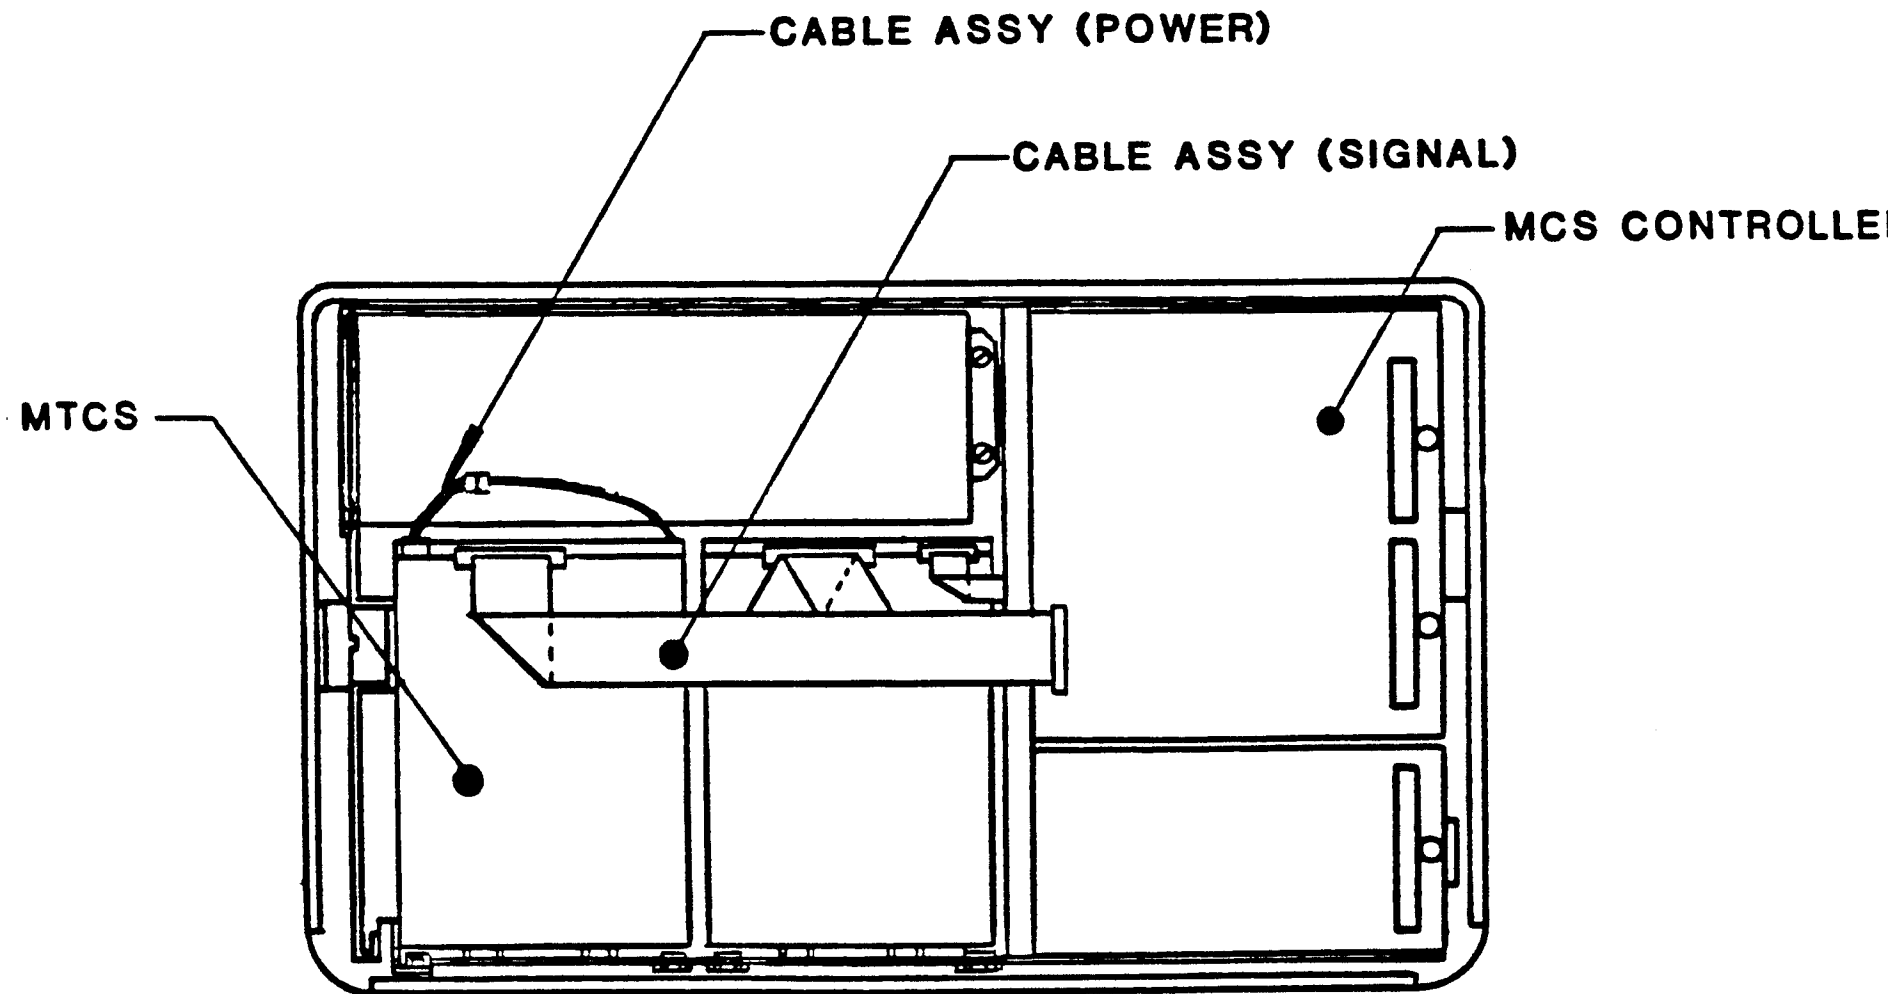

Figure 2-2. Cable Assembly Routing
10. Install and route the 907797-002 bus cable assembly between the MTCS and the MTCS Controller PCBA (refer to Figure 2-2).